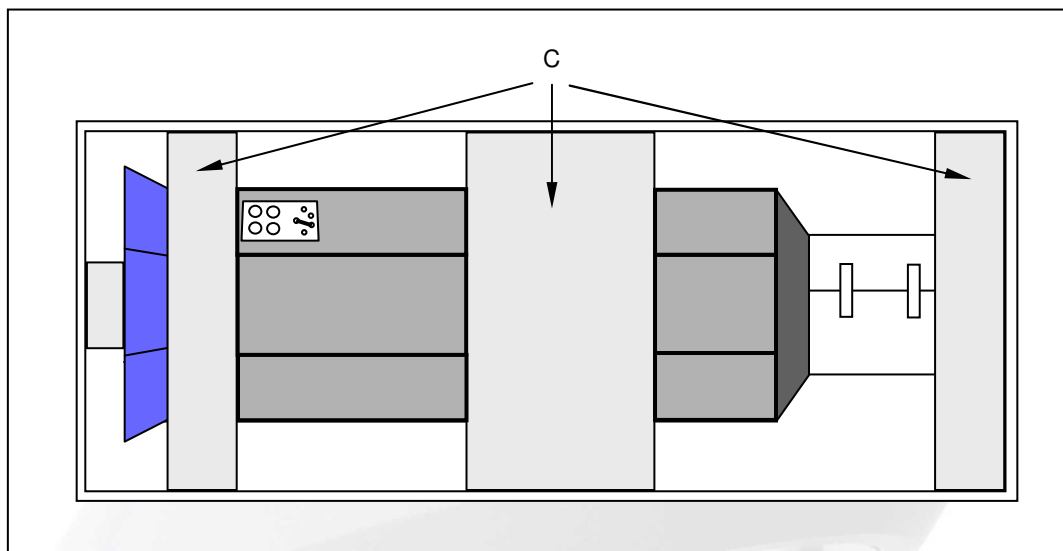

Figure 2. Borderland Mk IV Shipping Carton
2. Remove the three foam packing pieces C in figure 2.